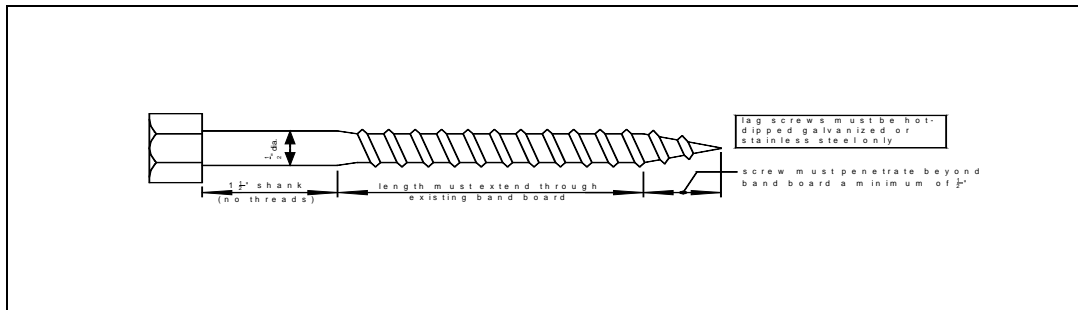

FIGURE 21: LAG SCREW REQUIREMENTS
- See FIGURE 21 for lag screw length and shank requirements.